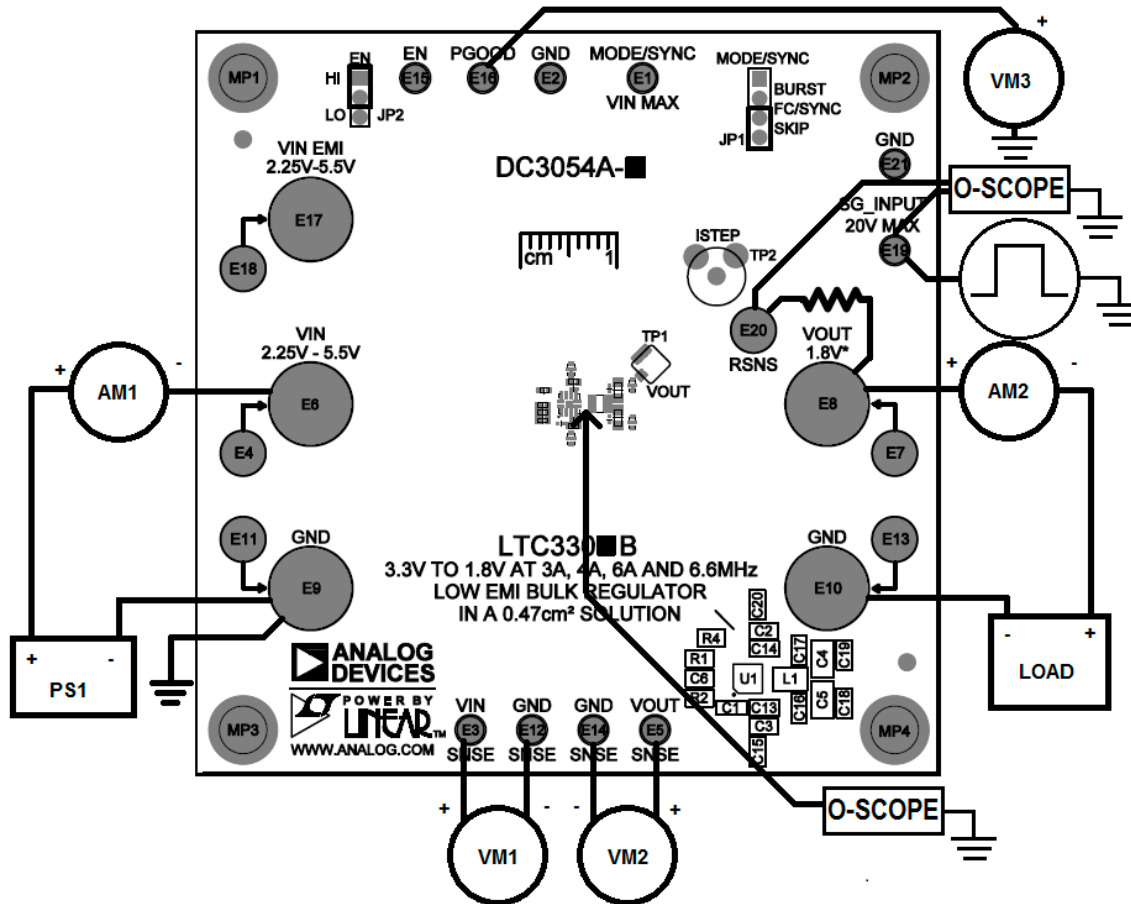

Figure 1. Test Setup for the DC3054A-A Demo Board
Demonstration circuit 3054A-A is easy to set up and use to evaluate the performance of the LTC3307B. Refer to Figure 1 for proper measurement equipment setup and follow the procedure below:
NOTE: For accurate V_{IN} , V_{OUT} and efficiency measurements, measure V_{IN} at the V_{IN} SNSE and GND SNSE turrets and V_{OUT} at the V_{OUT} SNSE and GND SNSE turrets as illustrated as VM1 and VM2 in Figure 1. When measuring the input or output voltage ripple, care must be taken to avoid a long ground lead on the oscilloscope probe.
13. To test the transient response with a base load, add the desired resistor to produce a minimum load between V_{OUT} and RSNS turrets (R_L shown on Figure 1). Note that the total load resistance will be R_L plus R11 (100m Ω).